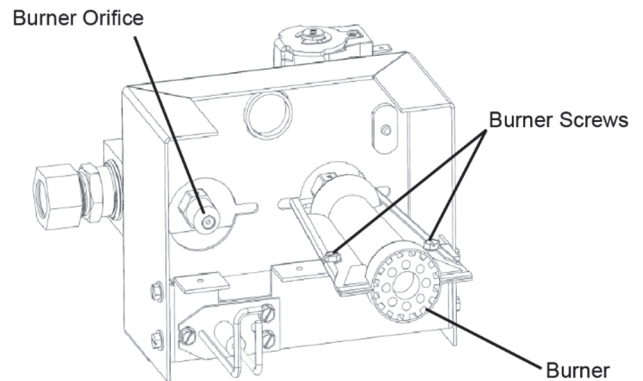
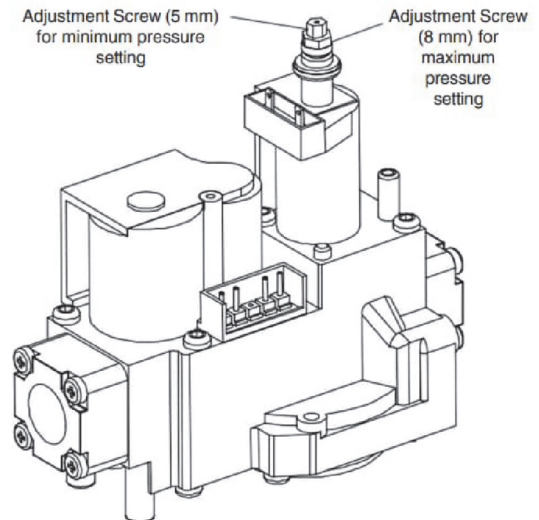

Figure 12. Gas Burner Assembly
Figure 13. Gas Valve
Inlet, regulated, and pilot gas pressure readings can be taken using a digital tube manometer at the tap location shown in Figure 12. Figure 12 shows the burner assembly and Figure 13 shows the gas valve.
D. PS2620G Propane Conversion (See Fig. 12 and 13)